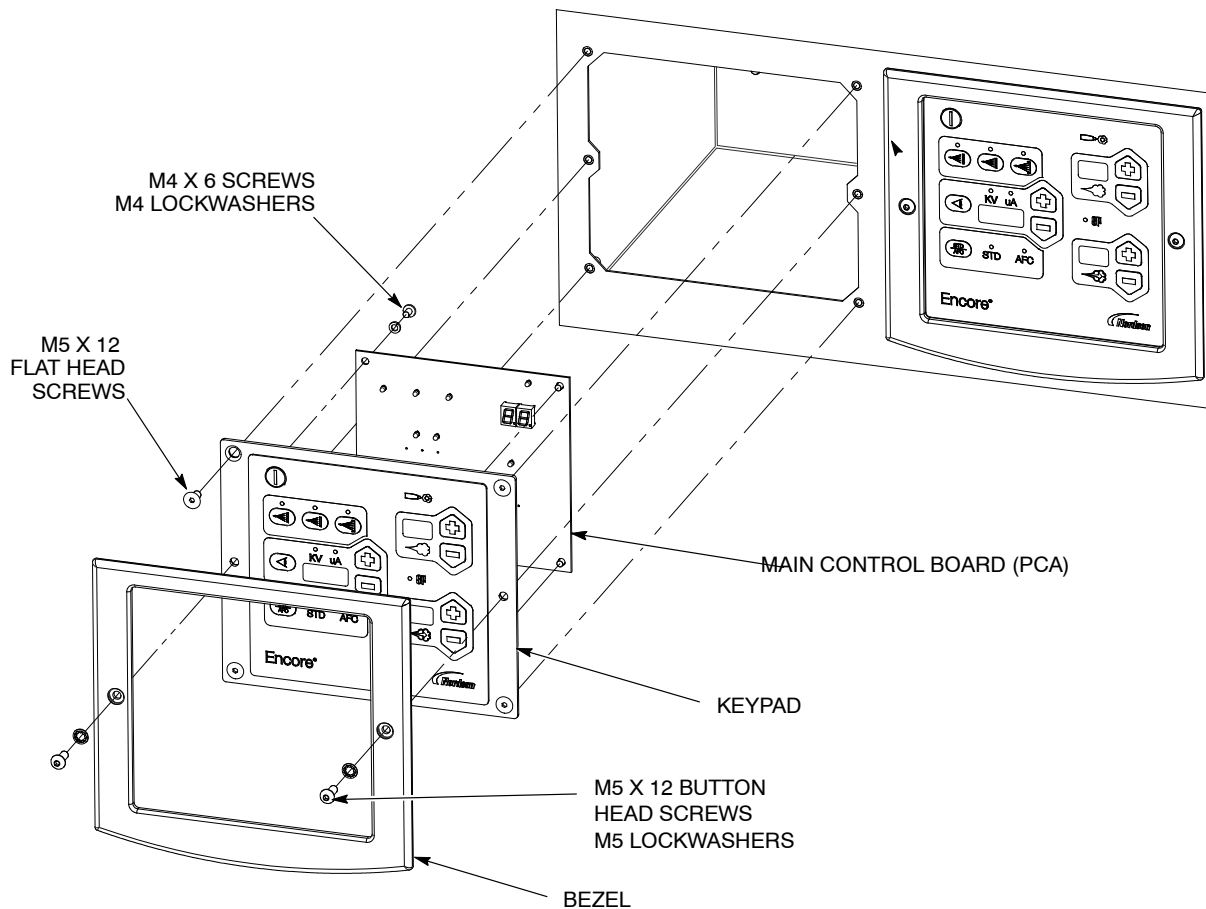

Figure 5 Installing the Keypad Assembly on Front Panel
12. See Figure 5. Use the M5 flat head screws provided with the keypad panel kit to secure the panel into place.